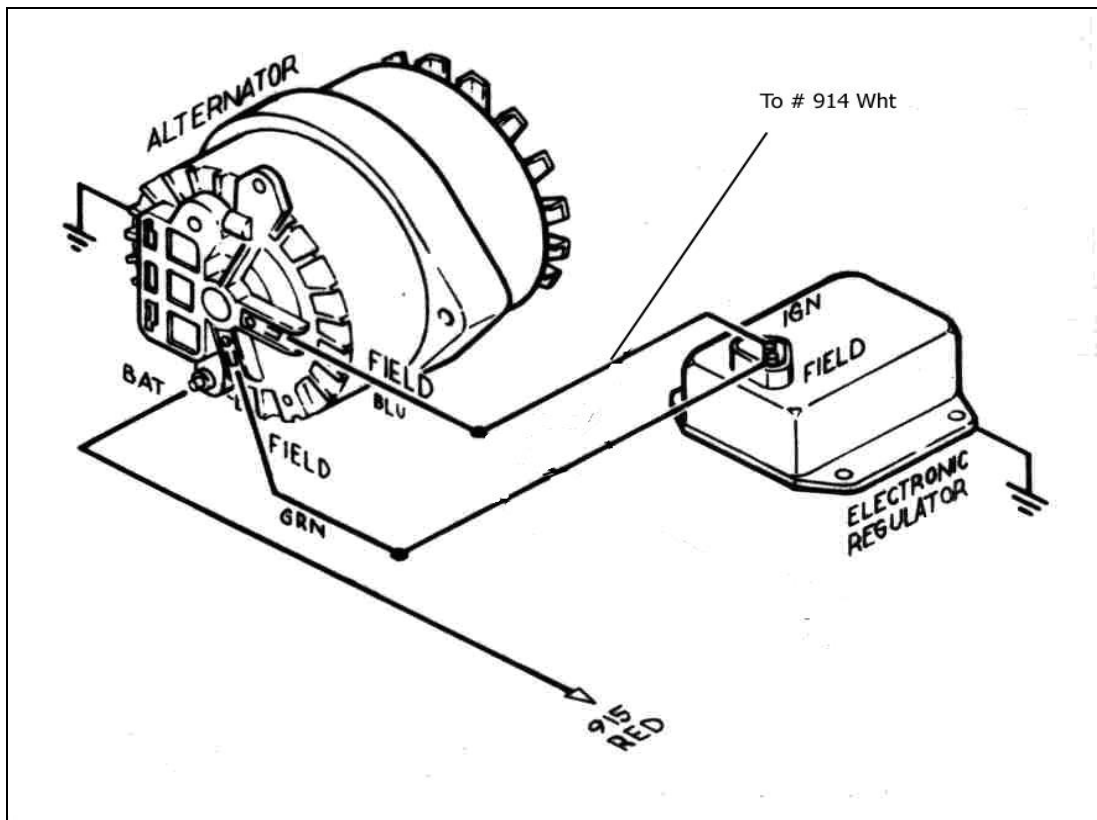

Figure 9-1 Mopar Alternator w/ Electronic Regulator
9.1 Mopar Alternator. See Figure 9-1
Note: Your Alternator may not appear exactly as represented in **Figure 9-1**. The circuits are wired the same way, though.
9.1.3 For an Electronic regulator, Connect ENGINE SECTION wire #914 (wht) to the Alternator Field (F) terminal. Connect ENGINE SECTION wire #915 (red) to the Alternator Output lug (**Figure 9-1**)
9.1.5 Connect a 14-gauge wire from the other Alternator Field terminal (as shown in **Figure 9-1**) to the second terminal of the ELECTRONIC Voltage Regulator OR terminal (F) of the MECHANICAL Voltage Regulator. On existing Mopar harnesses, this would be a green wire.